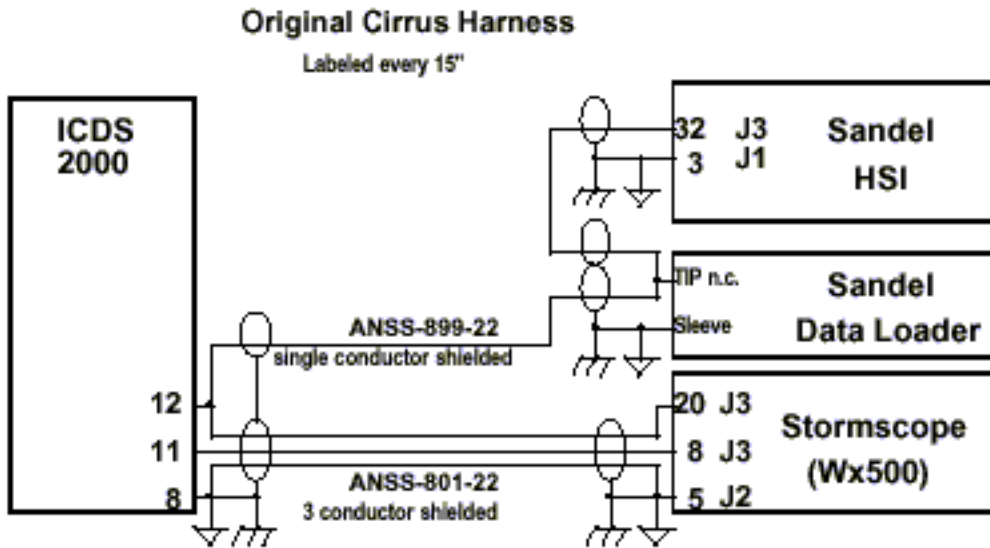

Figure 10.3.1
1. Aircraft equipped with both a Stormscope and the Sandel HSI have the Stormscope data signal daisy-chained from the Stormscope to the ICDS 2000 to the Sandel Data Loader (1/4" phone jack) then to the Sandel HSI. (As per **Figure 10.3.1**)